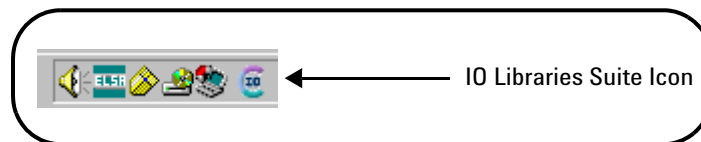

Figure 1-3 IO Libraries Suite Icon
- Figure 1-3, "IO Libraries Suite Icon" 9
Before you begin installation, check for previously installed Agilent IO Libraries software. If a version of the Agilent IO Libraries Suite is installed on your PC, an IO icon may be displayed on the Windows taskbar (on the lower right-hand side of the screen as shown in Figure 1-3 below).